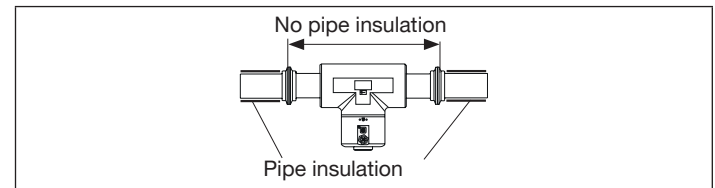

Fig. 10: Thermal insulation of the pipe
- If the pipe is fitted with a thermal insulation, do not thermally insulate the measurement tube of the device to make sure that the temperature in the device is less than  $70\text{ °C}$ . Refer to “Fig. 10” and “Fig. 15” for the minimum supply voltage.